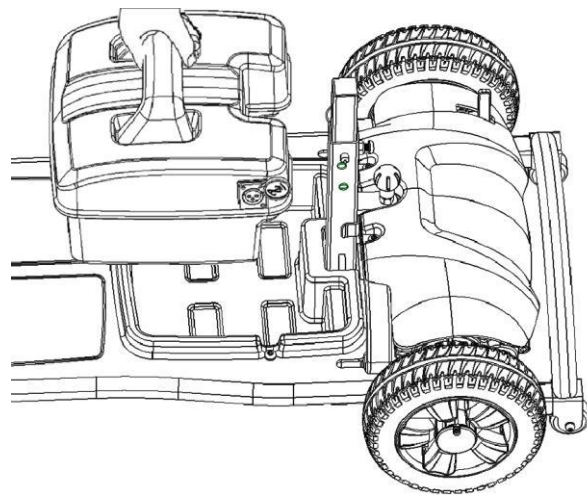

Fig. 5.1.2
4. Pick up the battery pack and remove it from the scooter. (See the Fig. 5.1.2)